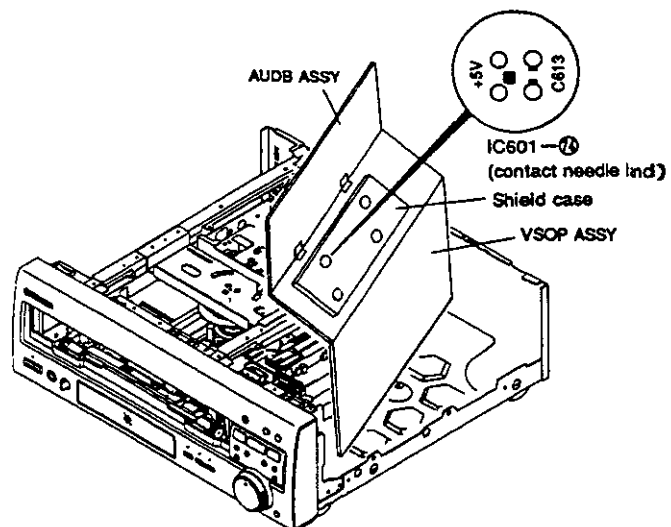

Fig. 4
● As shown in Fig. 4, fit VSOP assy into PCB holder on the chassis and by standing it against the inside of the chassis, the back side of the board (pattern side) can be diagnosed.
When carrying out 1.6.5 Electrical adjustment "3. master clock adjustment", the frequency of IC601 - ⑦ can be measured with the contact needle land that can be seen through the hole in the shield case in Fig. 4.